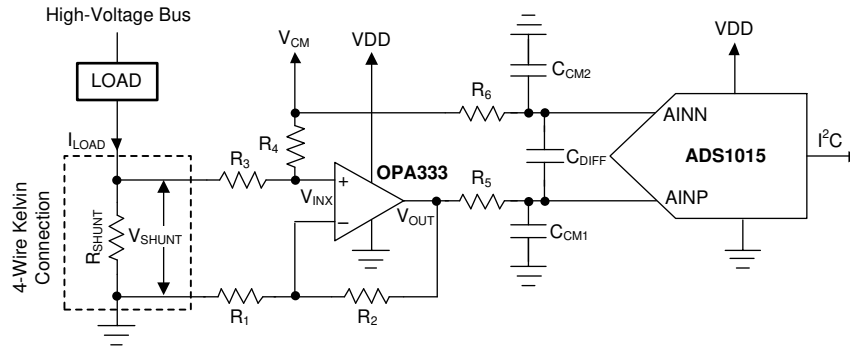

图 9-6. Low-Side Current Shunt Monitoring
Shunt-based, current-measurement solutions are widely used to monitor load currents. Low-side, current-shunt measurements are independent of the bus voltage because the shunt common-mode voltage is near ground. 图 9-6 shows an example circuit for a bidirectional, low-side, current-shunt measurement system. The load current is determined by measuring the voltage across the shunt resistor that is amplified and level-shifted by a low-drift operational amplifier, OPA333. The OPA333 output voltage is digitized with ADS1015 and sent to the microcontroller using the I²C interface. This circuit is capable of measuring bidirectional currents flowing through the shunt resistor with great accuracy and precision.
1. To level-shift the ground-referenced signal to allow bidirectional current measurements while running off a unipolar supply. The voltage across the shunt resistor, V_{SHUNT} , is level-shifted by a common-mode voltage, V_{CM} , as shown in 图 9-6. The level-shifted voltage, V_{INX} , at the noninverting input is given by 方程式 3.
A shunt resistor (R_{SHUNT}) is an accurate resistance inserted in series with the load as described in 图 9-6. If the absolute voltage drop across the shunt, $|V_{SHUNT}|$, is a larger percentage of the bus voltage, the voltage drop can reduce the overall efficiency and system performance. If $|V_{SHUNT}|$ is too low, measuring the small voltage drop requires careful design attention and proper selection of the ADC, operation amplifier, and precision resistors. Make sure that the absolute voltage at the shunt terminals does not result in violation of the input common-mode voltage range requirements of the operational amplifier. The power dissipation on the shunt resistor increases the temperature because of the current flowing through the resistor. To minimize the measurement errors resulting from variation in temperature, select a low-drift shunt resistor. To minimize the measurement gain error, select a shunt resistor with a low tolerance value. To remove the errors caused by stray ground resistance, use a four-wire Kelvin-connected shunt resistor; see 图 9-6.